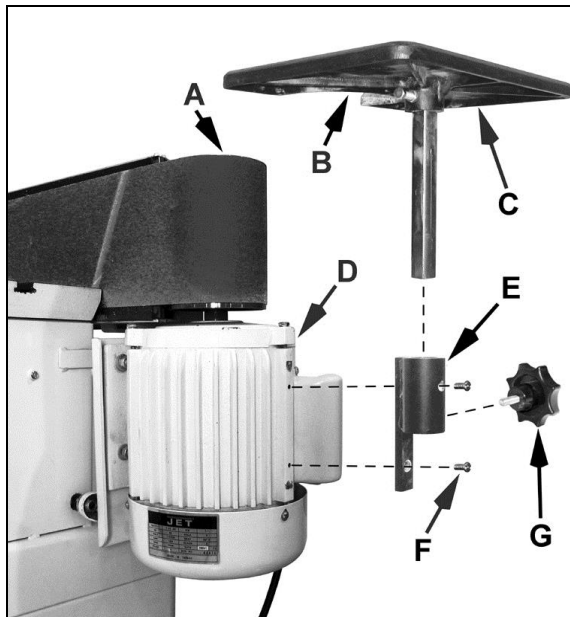

Fig 6
Attach the extension bracket (E, Fig 6) to the side of the motor (D) with 2 socket head cap screws (F).